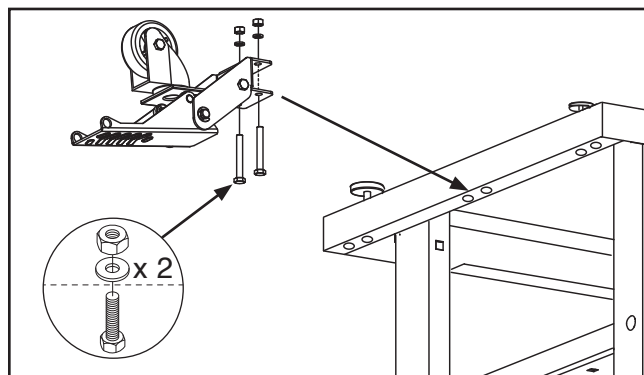

Figure 9. Installing pivot wheel assembly.
10. Attach pivot wheel assembly to short rail on base rail assembly with leveling feet using (2) M8-1.25 x 60 hex bolts, (2) 8mm flat washers, and (2) M8-1.25 hex nuts (see **Figure 9**).